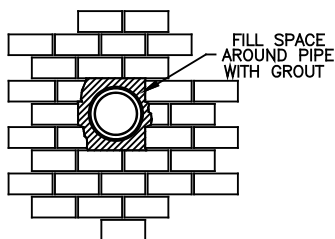

Figure 27
7. Once the horizontal Pipe Section is in place, the space between the pipe and the masonry may be filled with high temperature grout, if desired (**Figure 27**).